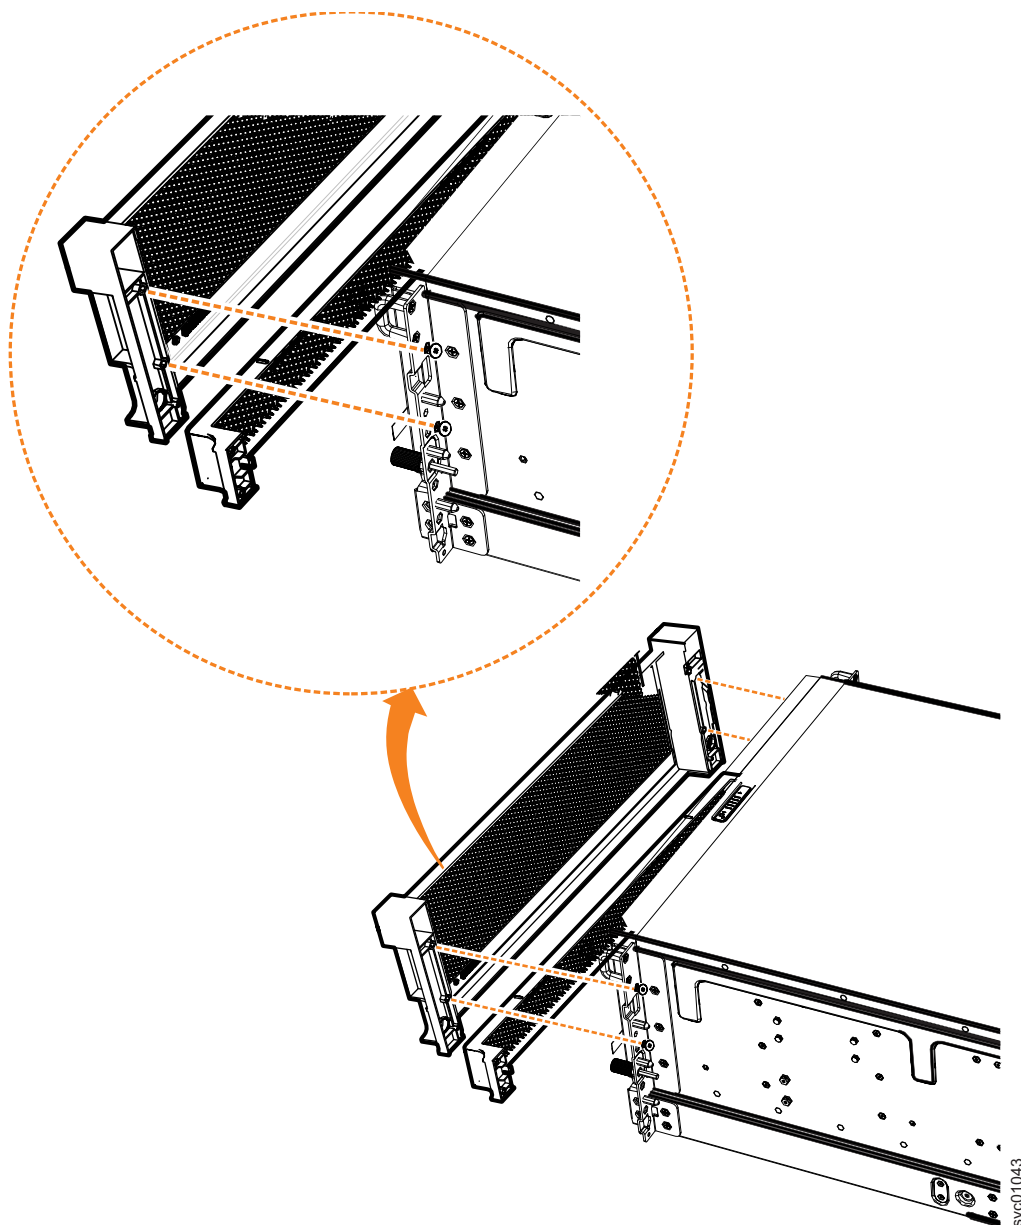

Figure 62. Replace fascia components on the expansion enclosure
2. Align the front 4U fascia with the enclosure so that the thumbscrews go through the holes on each side. As Figure 62 on page 79 shows, this action aligns the screw holes on the back of the fascia with the screw holes on the front flange of the enclosure.
4. Reattach the bottom 1U fascia that covers the power supply units (PSUs). Align the fascia with the enclosure and gently push it until it clicks into place on the chassis, as shown in Figure 62 on page 79.